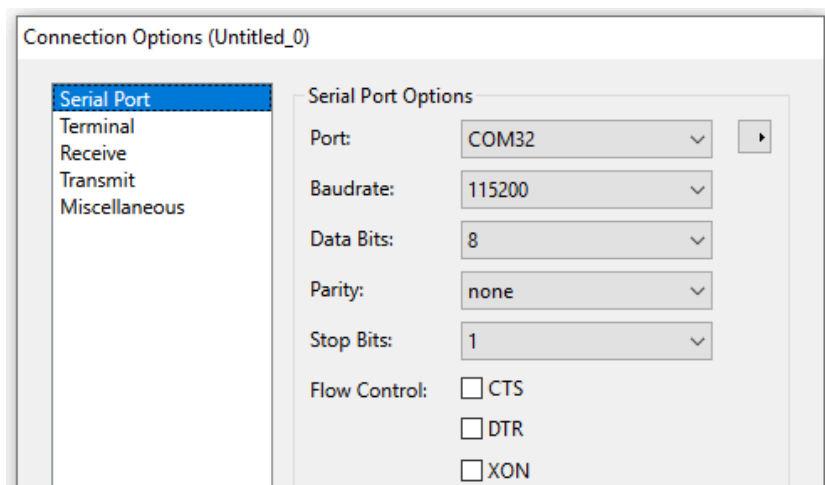

Figure 39. Serial Port Options in CoolTerm
3. Click the Options button from the CoolTerm main window (also found under Connection in the top menu). Click the **Re-Scan Serial Ports** button at the bottom of the **Serial Port** tab, and ensure that the Baudrate is set to 115200, Data Bits are 8, Parity is none, and Stop Bits are 1 (see **Figure 39**).